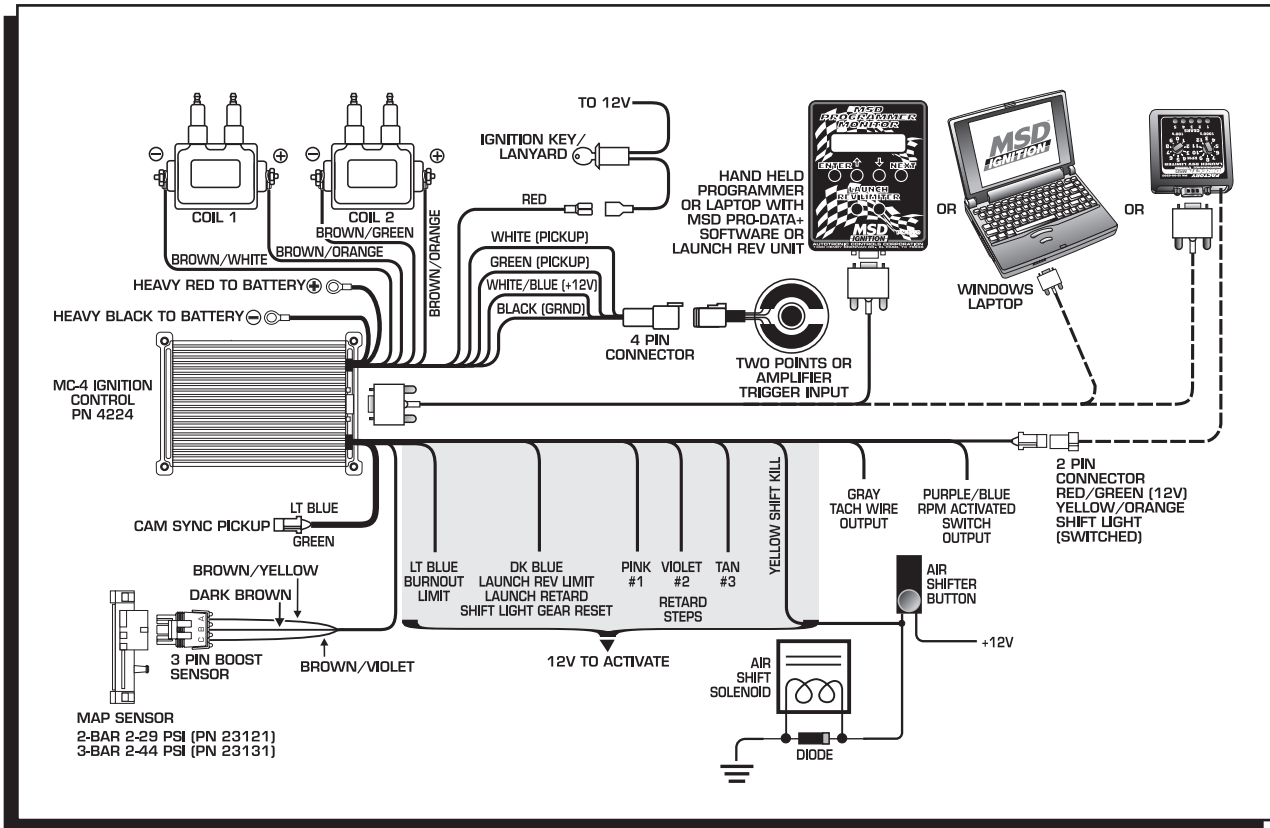

**Figure 7 Checking for Spark.**
5. Tap the white wire to ground quickly several times (Figure 7). Each time you pull the wires from ground, a spark should jump from the coil wires to ground. If spark is present, the ignition is working properly. Do the same test using the Green Trigger wire. If there is no spark skip to step 7 below: